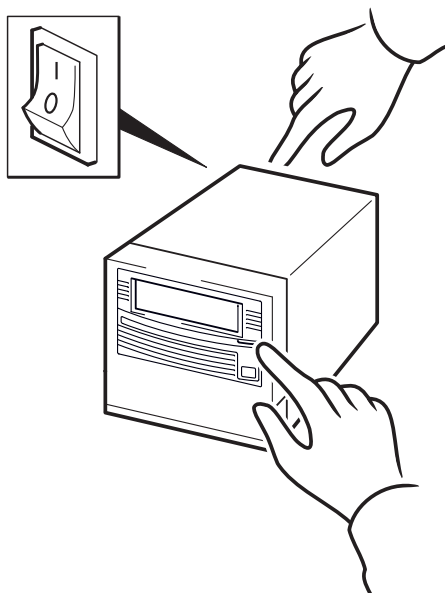

Figure 10b: using HP OBDR, step 2
- 2 Hold down the eject button. Keeping the eject button pressed down, power on your tape drive (see Figure 10b). This puts the device into HP One-Button Disaster Recovery mode when you power on. Release the button as soon as the Drive Density (left) and Cleaning Required (right) LEDs on the front panel flash in the OBDR sequence. This is a repeated pattern of: flash-flash-off. (The Drive Status LED functions as normal; flashing when moving tape and solid when in the ready state.)